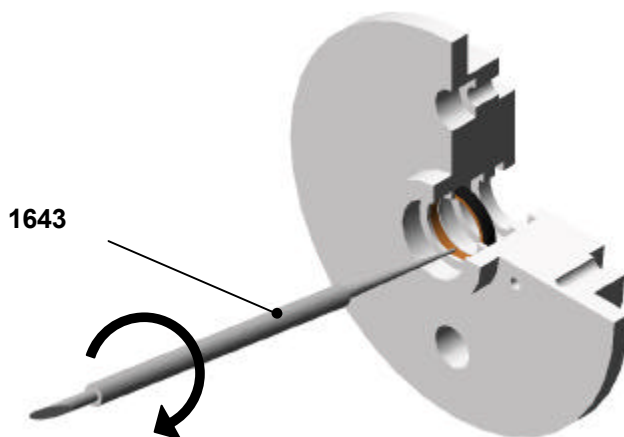

Figure 7
- Use the pick (P/N 1643) to correctly position the sleeve in its groove. Be careful not to damage the sleeve (Figure 7):